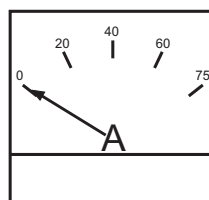

Figure 46. Ammeter (No Load)
12. The ammeter (Figure 46) will indicate zero amps with no load applied. When a load is applied, this meter will indicate the amount of current that the load is drawing from the generator's alternator.